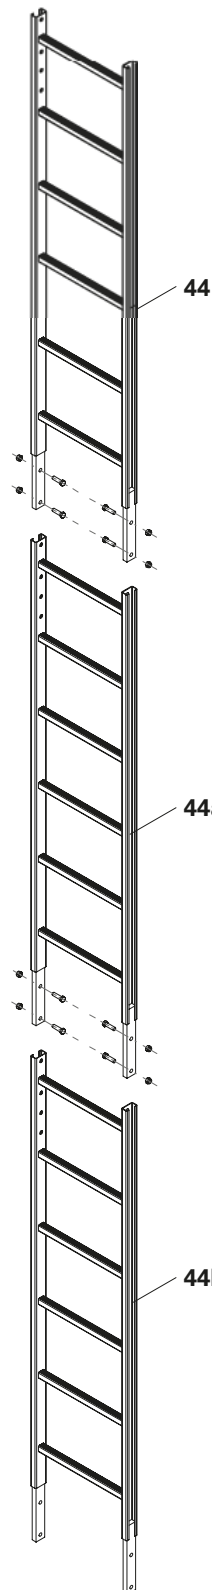

Fig. A1.40
2. Connect both ladders with bolts and nuts M12 x 40. (Fig. A1.40)